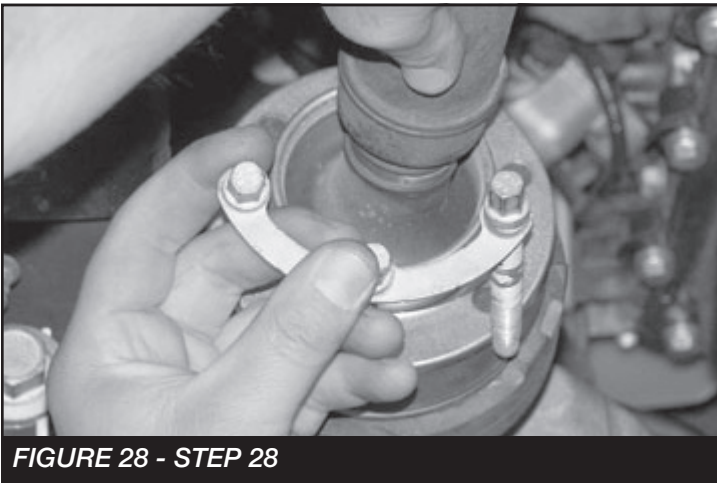

FIGURE 28 - STEP 28
28. Reinstall the front drive shaft with the factory hardware and torque to 35 ft-lbs. **SEE FIGURE 28**